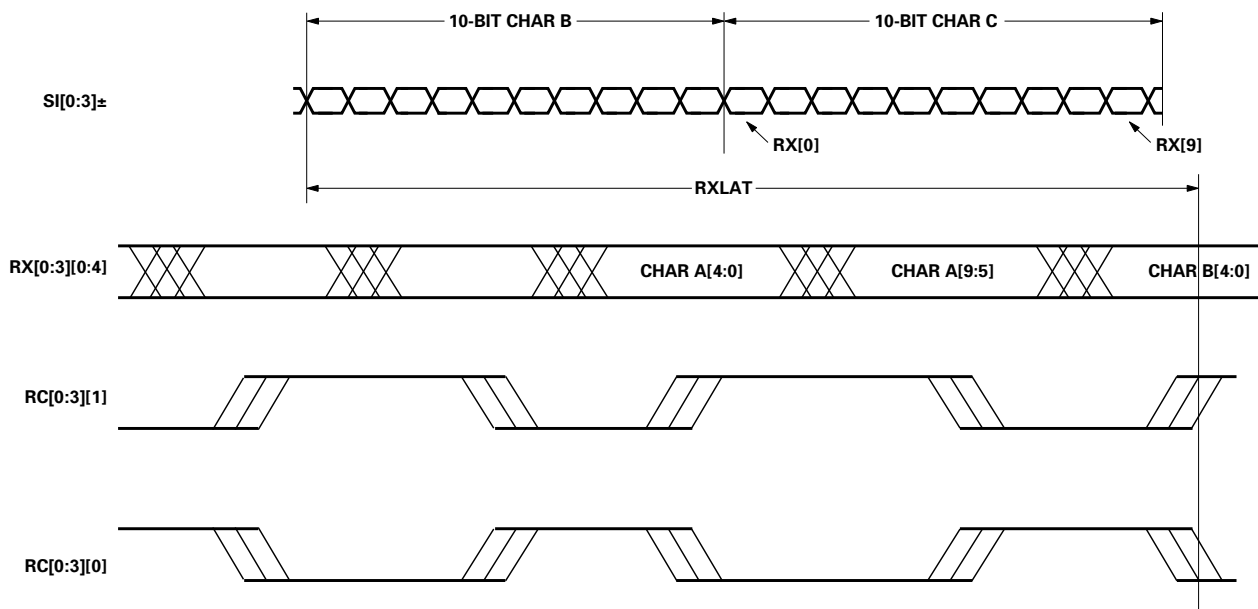

Figure 6. Receiver section latency. First bit on serial wire drives RX[0:3][0].
3. The receiver latency, as shown in Figure 6, is defined as the time between receiving the first serial bit of a parallel data word (defined as the edge of the first serial bit) and the clocking out of that parallel word (defined by the rising edge of the receive byte clock, RC [0:1]).